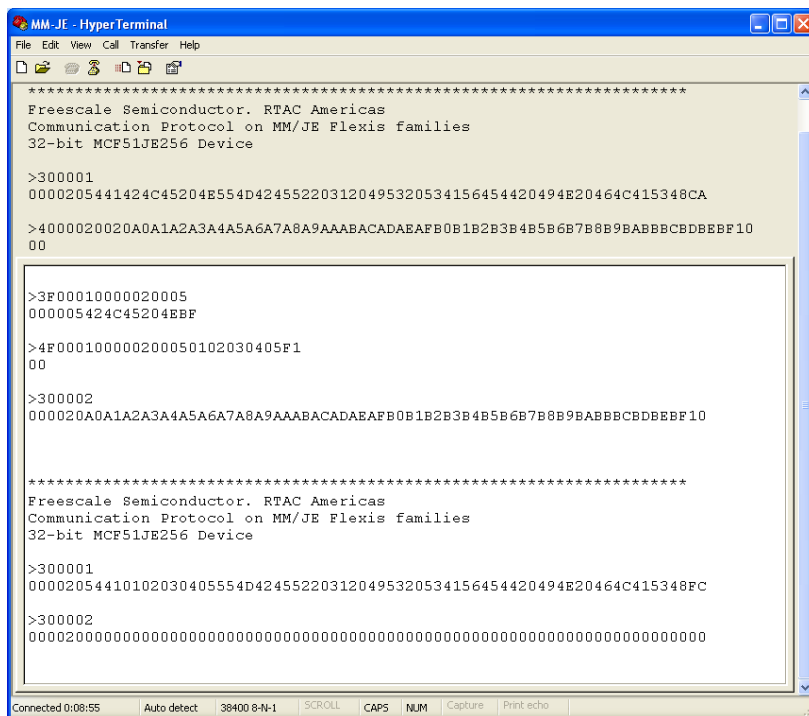

Figure 5. Terminal application showing the protocol executing commands
7. Send the correspondent command through the terminal window and the MCU will respond. Figure 5 shows a list of commands and responses.